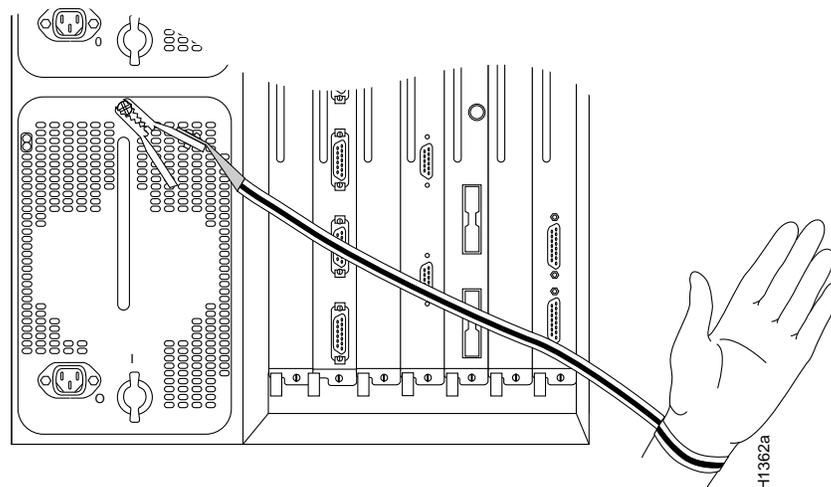

Figure 4 Placement of ESD Wrist Strap
- Connect the equipment end of the strap to one of the captive installation screws on an installed power supply (see Figure 4).